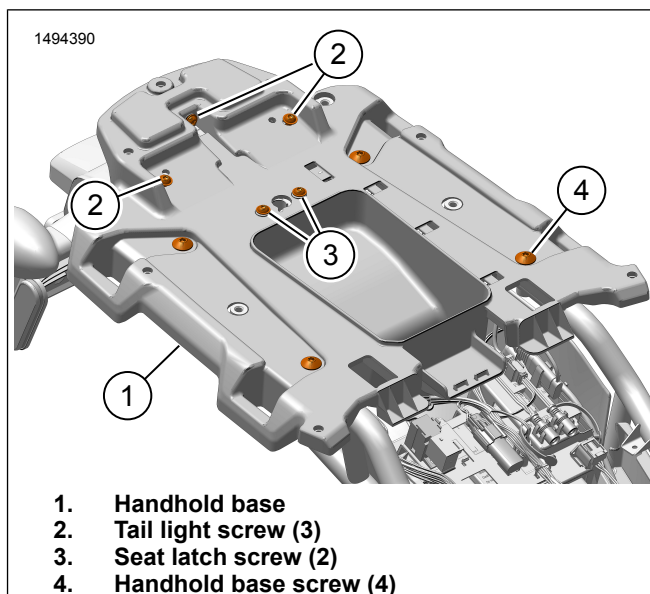

Figure 6. Install Handhold Base
- a. See Figure 6. Install seat latch screws (3). Tighten.
- a. See Figure 6. Install tail light screws (2). Tighten.
4. See Figure 6. Install handhold base (1).
a. Install handhold base screws (4). Tighten.